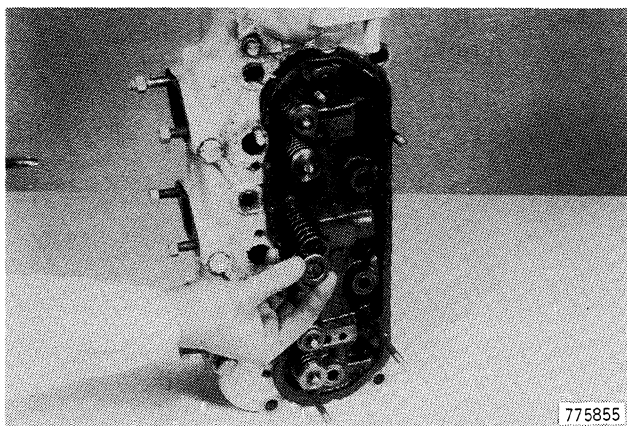

Figure 125
- 3. Install the spring cup on the valve stem, Figure 125.